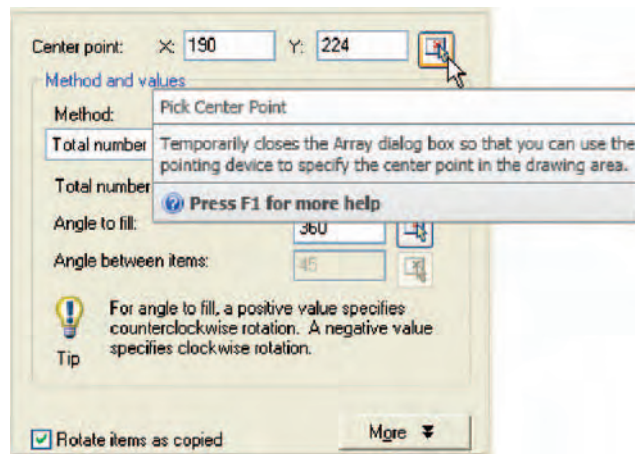

Fig. 5.21 Second example – Array – the Pick Center point button
3. Click the **Select objects** button of the dialog and window the drawing. The dialog returns to screen. Click the **Pick center point** button (Fig. 5.21) and when the dialog disappears, pick a center point for the array.